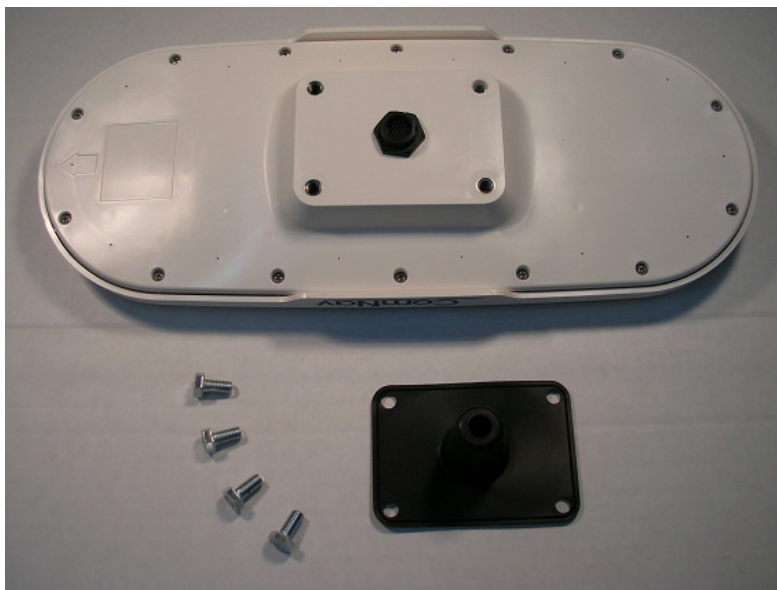

Figure 5 - Surface mount accessories
- 2) Push the flying lead end of the cable through the center opening of the mounting gasket (Figure 5).